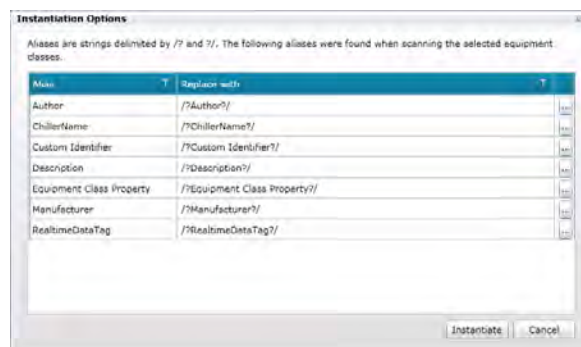

Figure 5 - Defining values for parameters
3. Select that option and an Instantiation Options dialog similar to Figure 5 will open up and you can fill the values for your parameters used in the class.